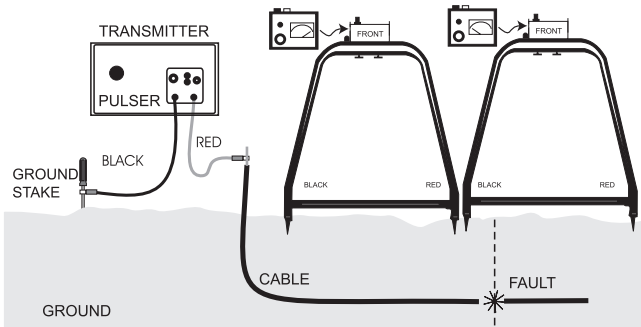
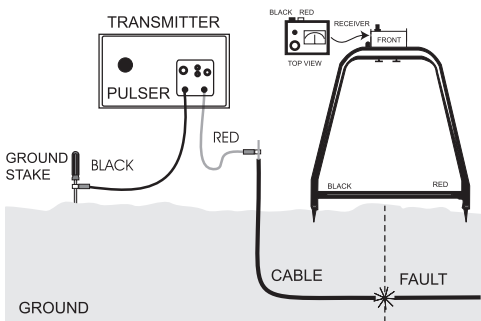

Figure 3.
Figure 4. Nulling Receiver - First Time
5. Turn the receiver on. Verify the battery condition by pressing the battery test button and observing the meter. Insert the "A" Frame probes into the earth. (See Figure 3.) If all probes are making good ground connection, the receiver will kick toward the fault (away from the transmitter) in step with the transmitter beeper.
7. While probing the path, a reversal in the receiver meter, a "black" kick, will be observed when the fault is passed. To determine the exact location, move the "A" Frame in the direction of the black kick until the kick reverses to red. (See Figure 3.) Now move the "A" Frame in small increments back to the red kick until it reverses to a black kick or it nulls. (See Figure 4.)
Note: Receiver will null when probes evenly straddle the fault. Mark this spot. (See Figures 4 and 5.)